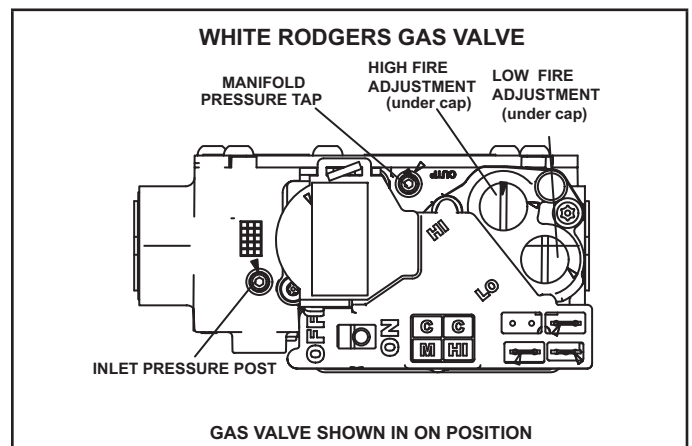

FIGURE 63
Gas Valve Operation (FIGURE 63)
- 6 - Move gas valve switch to OFF. See FIGURE 63.
- 8 - Move gas valve switch to ON. See FIGURE 63.
An inlet pressure post located on the gas valve provides access to the supply pressure. See FIGURE 63. Back out the 3/32 hex screw one turn, connect a piece of 5/16 tubing and connect to a manometer to measure supply pressure. See TABLE 25 for supply line pressure.
A manifold pressure post located on the gas valve provides access to the manifold pressure. See FIGURE 63. Back out the 3/32 hex screw one turn, connect a piece of 5/16 tubing and connect to a manometer to measure manifold pressure.
- 5 - If necessary, make adjustments. FIGURE 63 shows location of high fire and low fire adjustment screws.